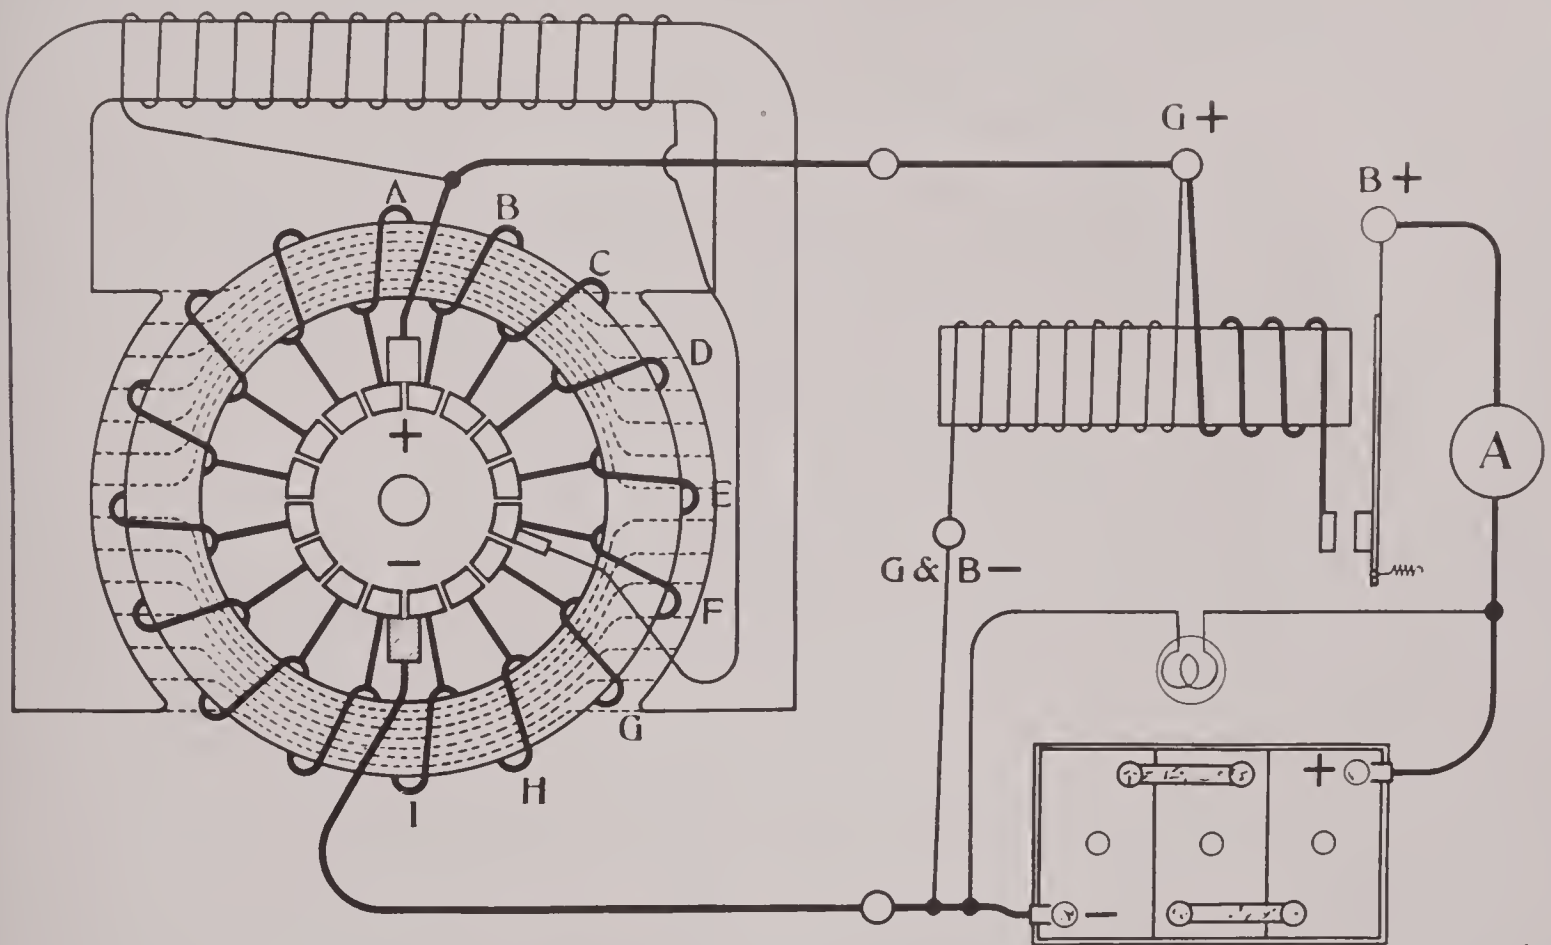
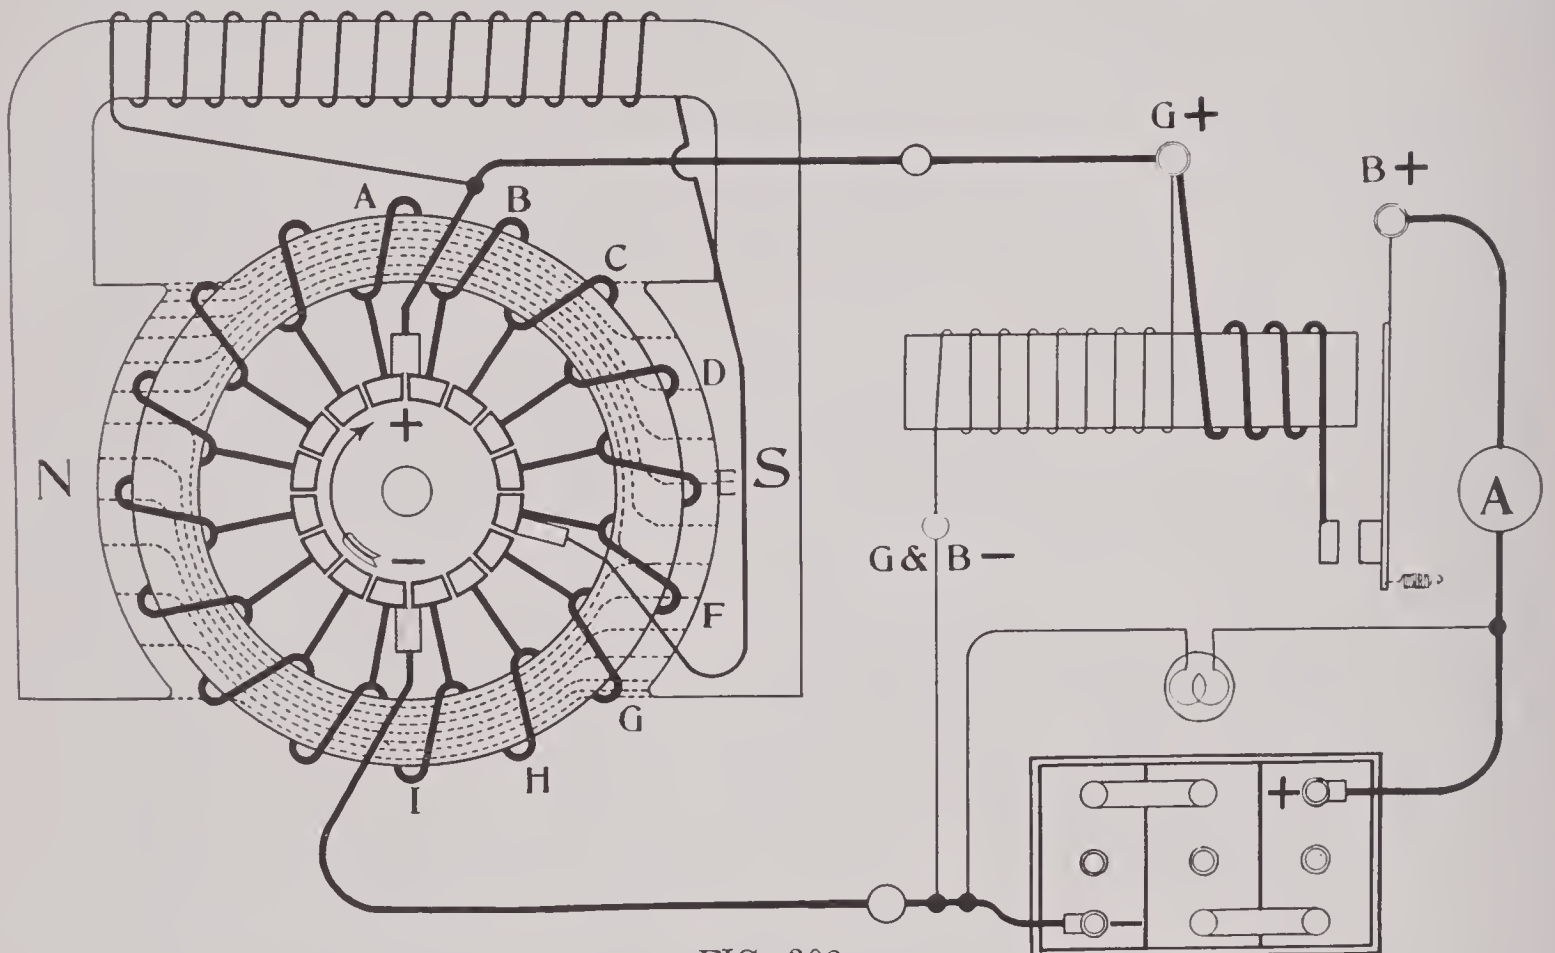

FIG. 302
FIG. 303
A general idea of field distortion produced by the reaction of the armature current on the field can be gained by comparing Figs. 302
and 303. In Fig. 302 the field is of uniform strength on both sides of the armature, but in Fig. 303 the lines of force are crowded towards the upper tip of the north pole and toward the lower tip of the south pole. This twisting of the lines of force out of their natural path is caused by the magnetic field set up by the current in the armature coils. The current sets up lines of force about the armature conductors which push the lines forming the field forward, distorting the field. The stronger the current in the armature coils the farther the lines are pushed out of their path, and the more the field is distorted.
In Fig. 302 it is assumed that the generator is running just fast enough to generate six volts, a voltage that is not high enough to close the cut-out relay contacts. The only current now passing through the armature is the shunt field current, which is comparatively weak, and not strong enough to distort the field to a noticeable extent. In Fig. 303 it is assumed that the generator is running faster, generating about  $7\frac{1}{2}$  or 8 volts, a voltage that is high enough to close the cut-out contacts, and charge the battery at about a 15 ampere rate. The current now passing through the armature is 15 amperes plus the field current. Current flowing through the armature at this rate is strong enough to distort the field considerably.
not possible to give in the description exact values for the E. M. F. in the armature conductors or the strength of the charge current, since Figs. 302 and 303 are merely illustrative and do not show as many armature conductors as must be used in a generator. However values have been given which will illustrate the conditions in a generator having field distortion regulation while it is in operation.
In Fig. 302 the speed of the armature is such that 6 volts are generated. The strength of the E. M. F. induced in the conductors as they pass points (C), (D), (E), (F) and (G) are respectively about  $\frac{1}{2}$ ,  $1\frac{1}{2}$ , 2,  $1\frac{1}{2}$  and  $\frac{1}{2}$  volts. The conductor while passing point (C), will not have as high an E. M. F. induced in it as when passing point (E), since at (C) it is not moving directly across the lines of
When the voltage is increased by further increasing the speed of the armature, the cut-out relay closes and the generator forces current through the battery in the direction to charge it. When the armature reaches the speed at which the voltage is about  $7\frac{1}{2}$  volts, the charge current is about 15 amperes. As the current of 15 amperes is drawn through the armature, the field is so distorted that the condition represented in Fig. 303 is produced. Since the lines of force are now crowded toward the top of the north pole and toward the bottom of the south pole, the conductors as they pass points (C) and (D), cut fewer lines than when passing points (F) and (G). The values of the E. M. F. induced in the conductors now as they pass points (C), (D), (E), (F) and (G), are about  $\frac{1}{4}$ ,  $\frac{3}{4}$ , 2,  $2\frac{1}{2}$  and 2 volts respectively. Their combined E. M. F. is  $7\frac{1}{2}$  volts, which is the force drawing the current through the armature from the negative brush and forcing it to the positive brush. The E. M. F. drawing the current from the third brush to the positive brush is the sum of the E. M. F. in the conductors passing points (C), (D) and (E), or 3 volts. The force now drawing the current through the shunt field is less than before the field was distorted, hence the current in the shunt field is less and the field is weaker.